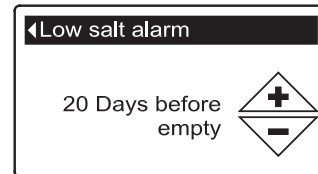

FIG. 91
5. Press the SELECT (○) button to display the Low salt alarm screen (See Figure 91).